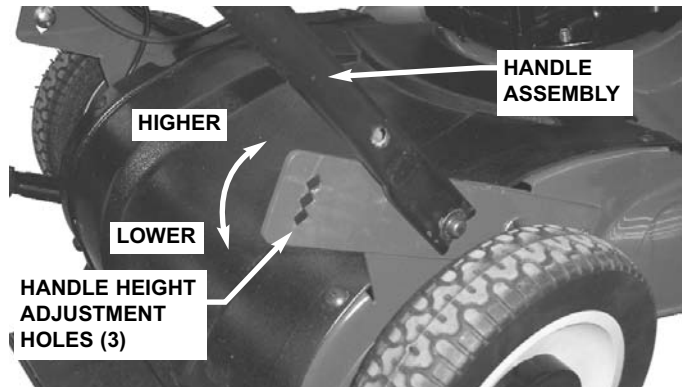

FIGURE 2.9
2. Align holes in handle assembly with one of three handle height adjustment holes in mounting bracket. See Figure 2.9.